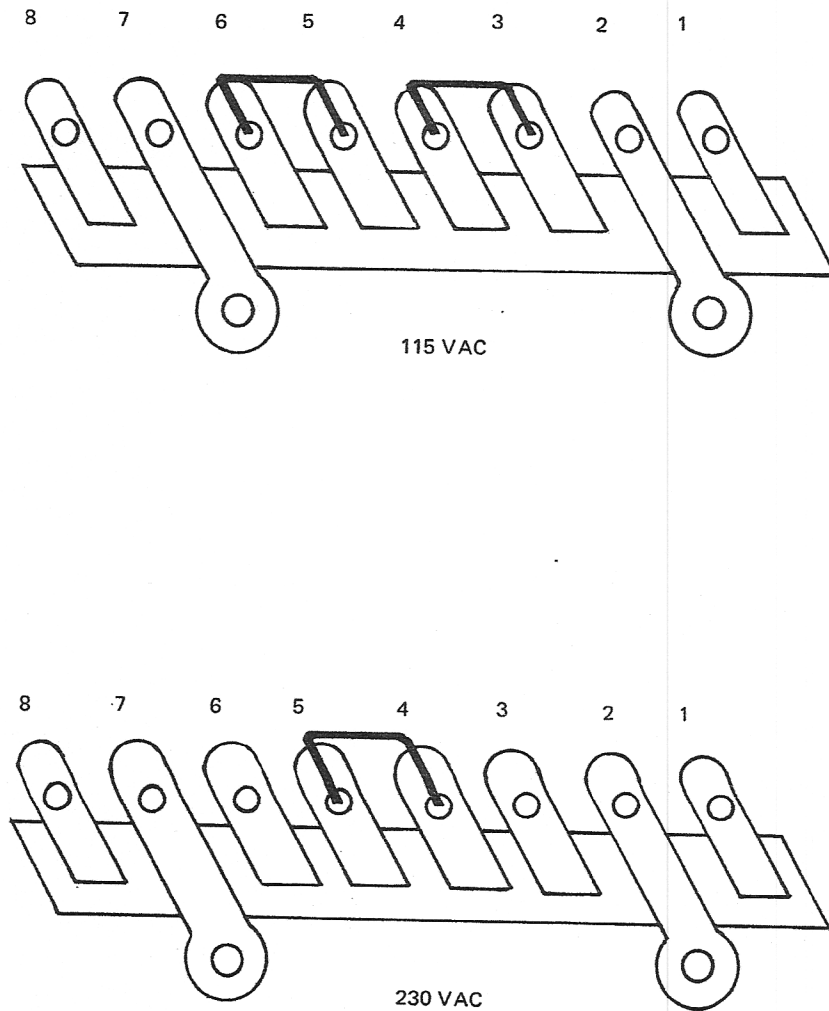

FIGURE 1. PRIMARY TERMINAL STRIP
- (c) Locate the primary terminal strip which is on the rear panel adjacent to the power transformer. Examine this strip to determine where the jumpers are located. Refer to Figure 1 for guidance.
- (d) Change from 115 VAC operation by cutting the jumper between 3 and 4 and also the jumper between 5 and 6. Add a jumper between 4 and 5. Be sure that the jumper placement agrees with Figure 1.